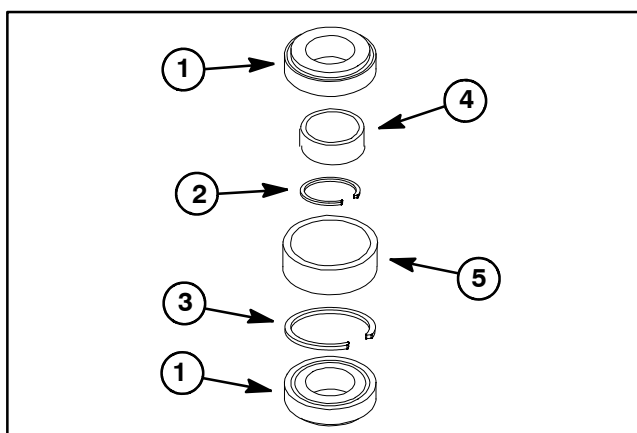

Figure 7
**NOTE:** A replacement spindle bearing set contains two (2) bearings, a spacer ring and a large snap ring (items 1, 2 and 3 in Fig. 7). These parts cannot be purchased separately. Do not mix bearing set components from one deck spindle to another.
**NOTE:** A replacement bearing spacer set includes the inner spacer and outer spacer (items 4 and 5 in Fig. 7). Do not mix bearing spacers from one deck spindle to another.
**IMPORTANT: If bearings are being replaced, make sure to use the spacer ring that is included with the new bearing set (Fig. 7).**